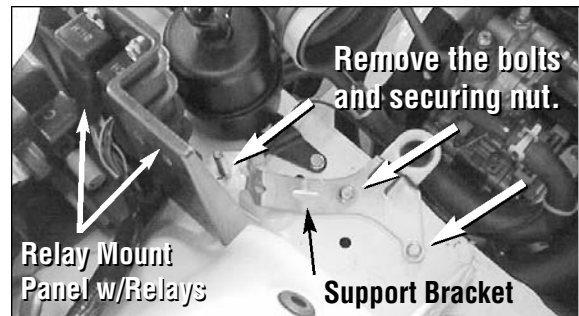

Figure 2
2. Remove the two (2) bolts and one (1) nut (See Figure 2) that secure the air filter support bracket and set aside the two bolts for later use in the same locations. Remove the support bracket. Next, remove the bolt that secures the front of the plastic relay mount panel. Now remove the relays from the panel and gently set them aside. The relay mounting bolts and nuts will be used later to re-mount the relays in a different location.